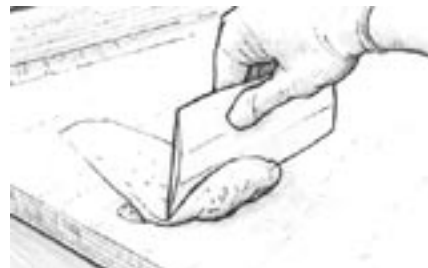

Figure 9-15 Trowel the thickened epoxy fairing compound into the voids and depressions with a plastic spreader.
4. Trowel the thickened mix onto the wetted surface with a plastic spreader, working it into all voids and depressions. Smooth the thickened epoxy to the desired shape, leaving the mix slightly higher than the surrounding area (*Figure 9-15*). Remove any excess thickened epoxy before it cures. If filling voids over 12mm deep, apply the fairing mix in several applications allowing each application to partially cure before proceeding and/or use 206 Slow Hardener or 209 Extra Slow Hardener, depending on ambient temperature.